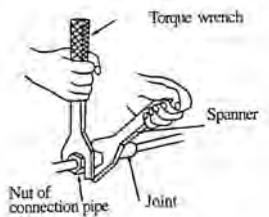

Fig.7
- 2.Align the joint counter of connecting pipe with the proper indoor and outdoor joint conic surfaces, tighten the connecting nut manually.Then.make it secure with a wrench as shown Fig.7 , applying to above torque Table 1.